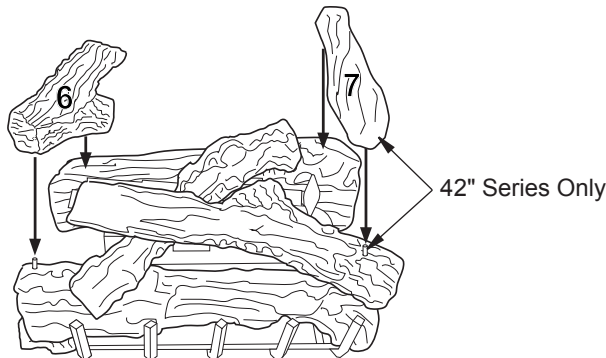

Figure 45 - Installing Log No. 6 (36" and 42" Series) and Log No. 7 (42" Series Only)
6. Place log #6 (left log) onto left pin of front log (#2) and the smooth surface of rear log (#3) as shown in Figure 45. Make sure it is seated properly.
7. For 42" series only, place log #7 onto right pin of top log (#5) as shown in Figure 45. Make sure it is seated properly